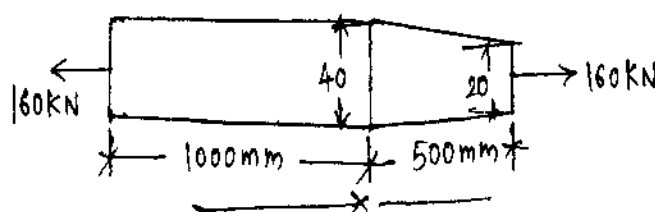

Fig. Q3(b)
- b. A 1.5 m long steel bar is having uniform diameter of 40 mm for a length of 1 m and in the next 0.5 m its diameter gradually reduces from 40 mm to 20 mm as shown in Fig. Q3(b). Determine the elongation of the bar when subjected to an axial tensile load of 160 kN. $E = 2 \times 10^5 \text{ N/mm}^2$. (10 Marks)